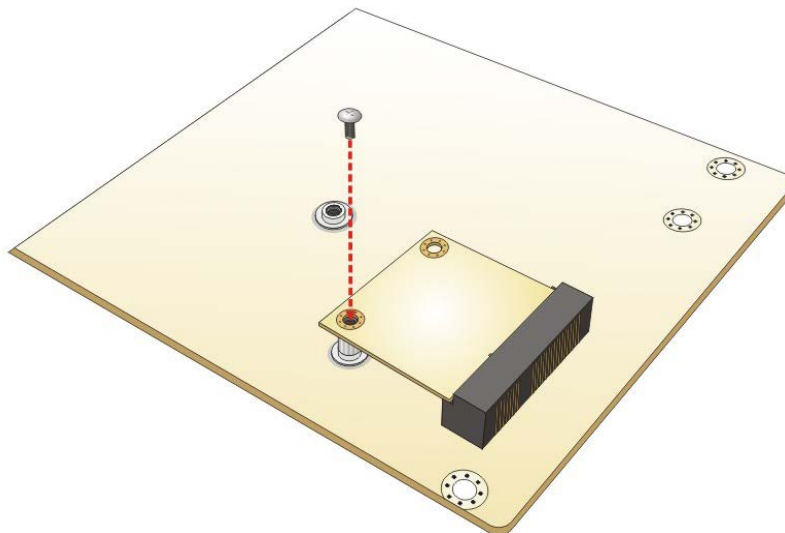

Figure 4-11: Securing the Half-size PCIe Mini Card
Step 6: Secure the half-size PCIe Mini card. Secure the half-size PCIe Mini card with the retention screw previously removed (**Figure 4-11**).